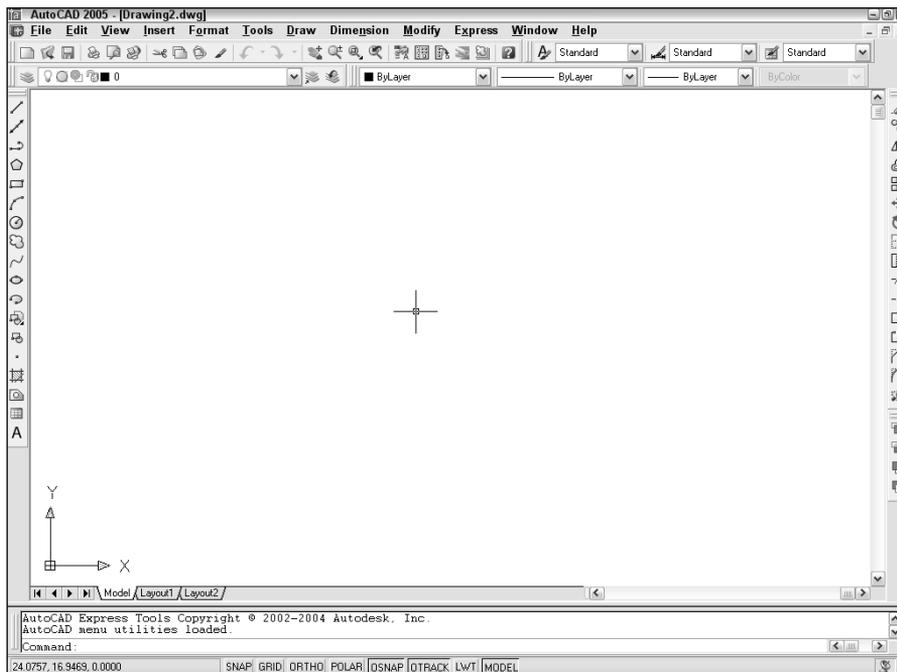

Figure 2-2: When you create a drawing based on a template, AutoCAD or AutoCAD LT opens a drawing called `Drawing2.dwg`.
4. Click Open. You now have a blank drawing named `Drawing2.dwg`, as shown in Figure 2-2.